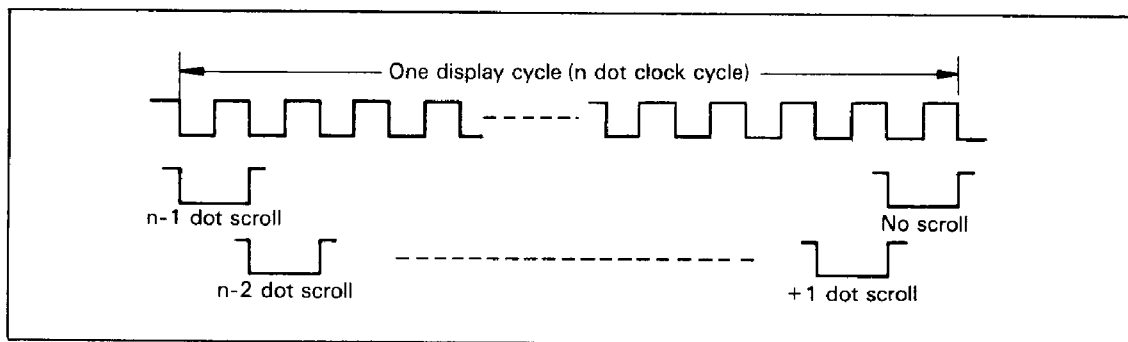

Figure 8. Shift Load ( $\overline{SLDB}$ ,  $\overline{SLDW}$ ) Output Timing
**Amount of Scrolling and Output Timing:** Figure 8 shows the output timing of the shift load signals ( $\overline{SLDB}$ ,  $\overline{SLDW}$ ) for different amounts of scrolling. With increased scrolling, the load signal is output earlier by one dot clock.